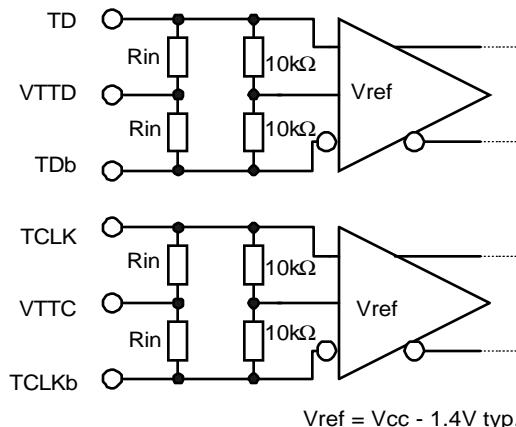

Figure 3 Data and Clock Input Interface
1. Termination current is not included. 2. Measured between each signal input and VTDD or VTTC. Refer to Figure 3.